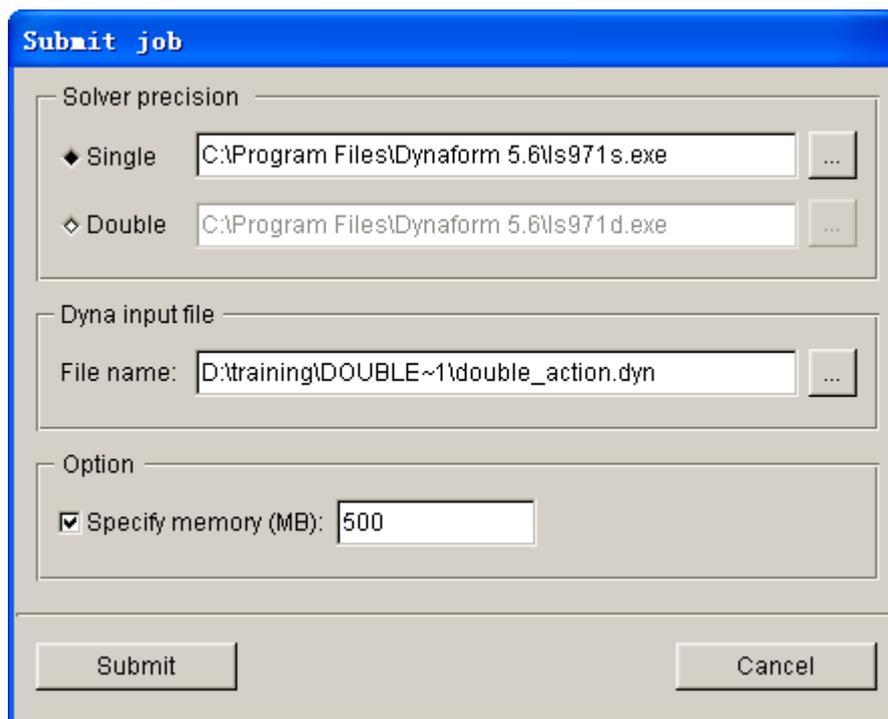

Figure 2.40 Submit job dialog box
2. The program pops up the SUBMIT JOB dialog box illustrated in Figure 2.40. You can select type of solver (either single or double precision), location of Dyna input file; specify job ID and memory allocation.